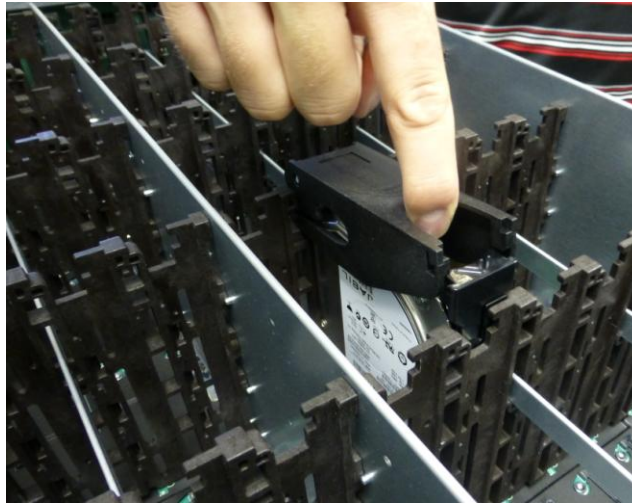

Figure 38. **Releasing HDD Carrier Lock**
1. Release the carrier lock (Figure 38).